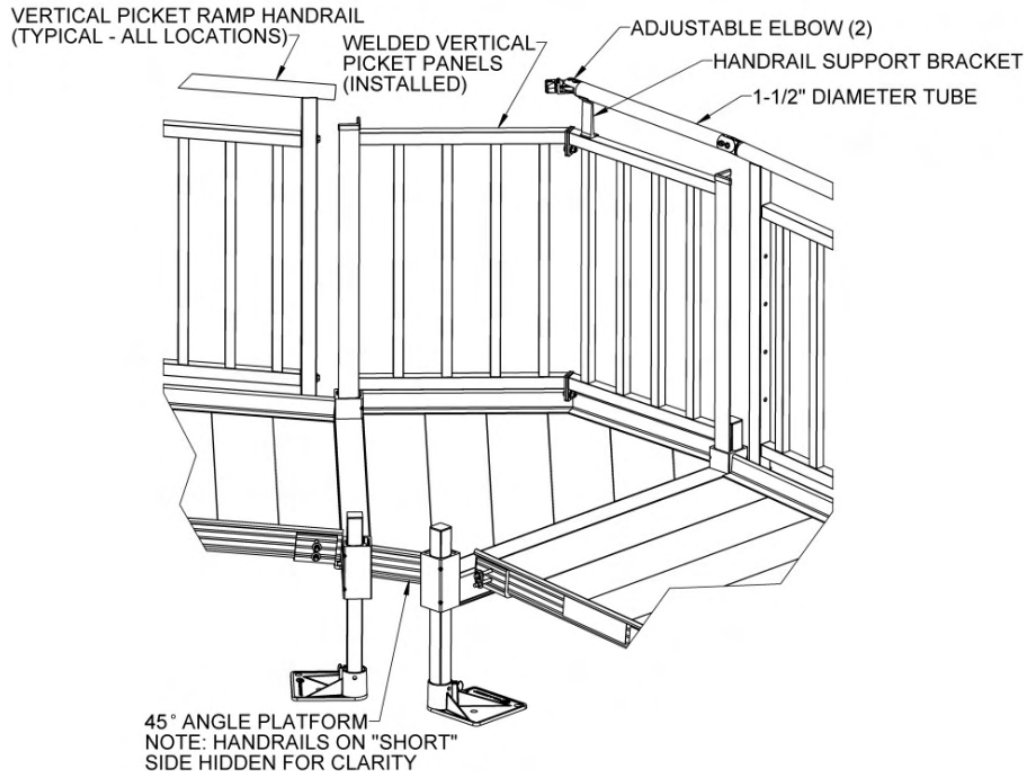

FIG. 4.18
- 4.6.21. Install an adjustable elbow in the ramp handrail closest to the right-hand Vertical Picket panel and a 1-1/2" diameter handrail tube to this elbow. Set the Handrail Support Bracket so it is centered over the picket shown and set the 1-1/2" diameter handrail tube in the saddle of the bracket (but do not attach), then trim the handrail tube so that a second adjustable elbow will align (approximately) with the split between the Vertical Picket panels (FIG. 4.18). The procedure for installing the 1-1/2" diameter handrail tubes and adjustable elbows is the same as the installing the closure top rail.